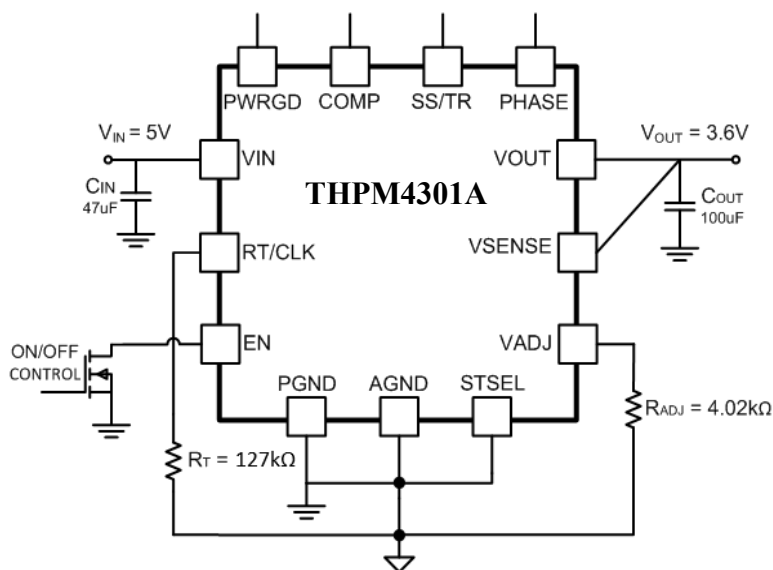

Fig. 23 Typical Schematic $V_{IN} = 4.4V$ to $6.0V$, $V_{OUT} = 3.6V$, $F_s = 750kHz$
Fig. 23 shows a typical schematic for a 5V input, 3.6V output application using THPM4301A. The adjustment resistor, R_{ADJ} , is selected as 4.02k Ω calculated based on Equation (1). In this example, the switching frequency is selected as 750kHz by connecting the timing resistor of 127k Ω between R_T/CLK pin and AGND pin.